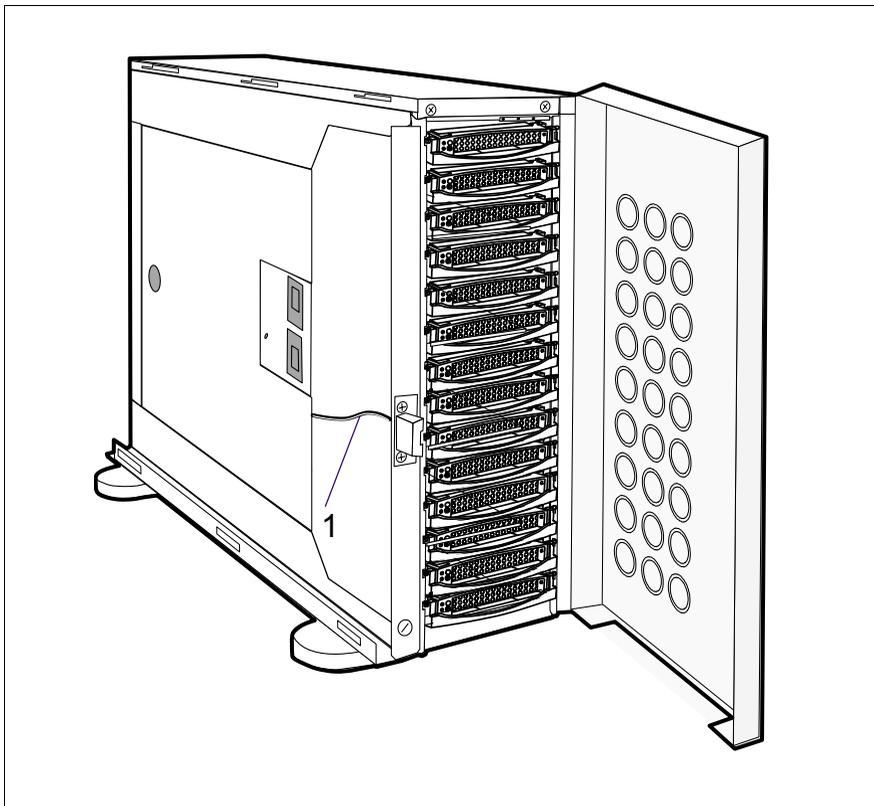

Figure 10: Floorstand model: door switch with connection strip
For mounting the left side cover pay attention to the connection strip (1) for the door switch (see figure 10). It can be damaged.